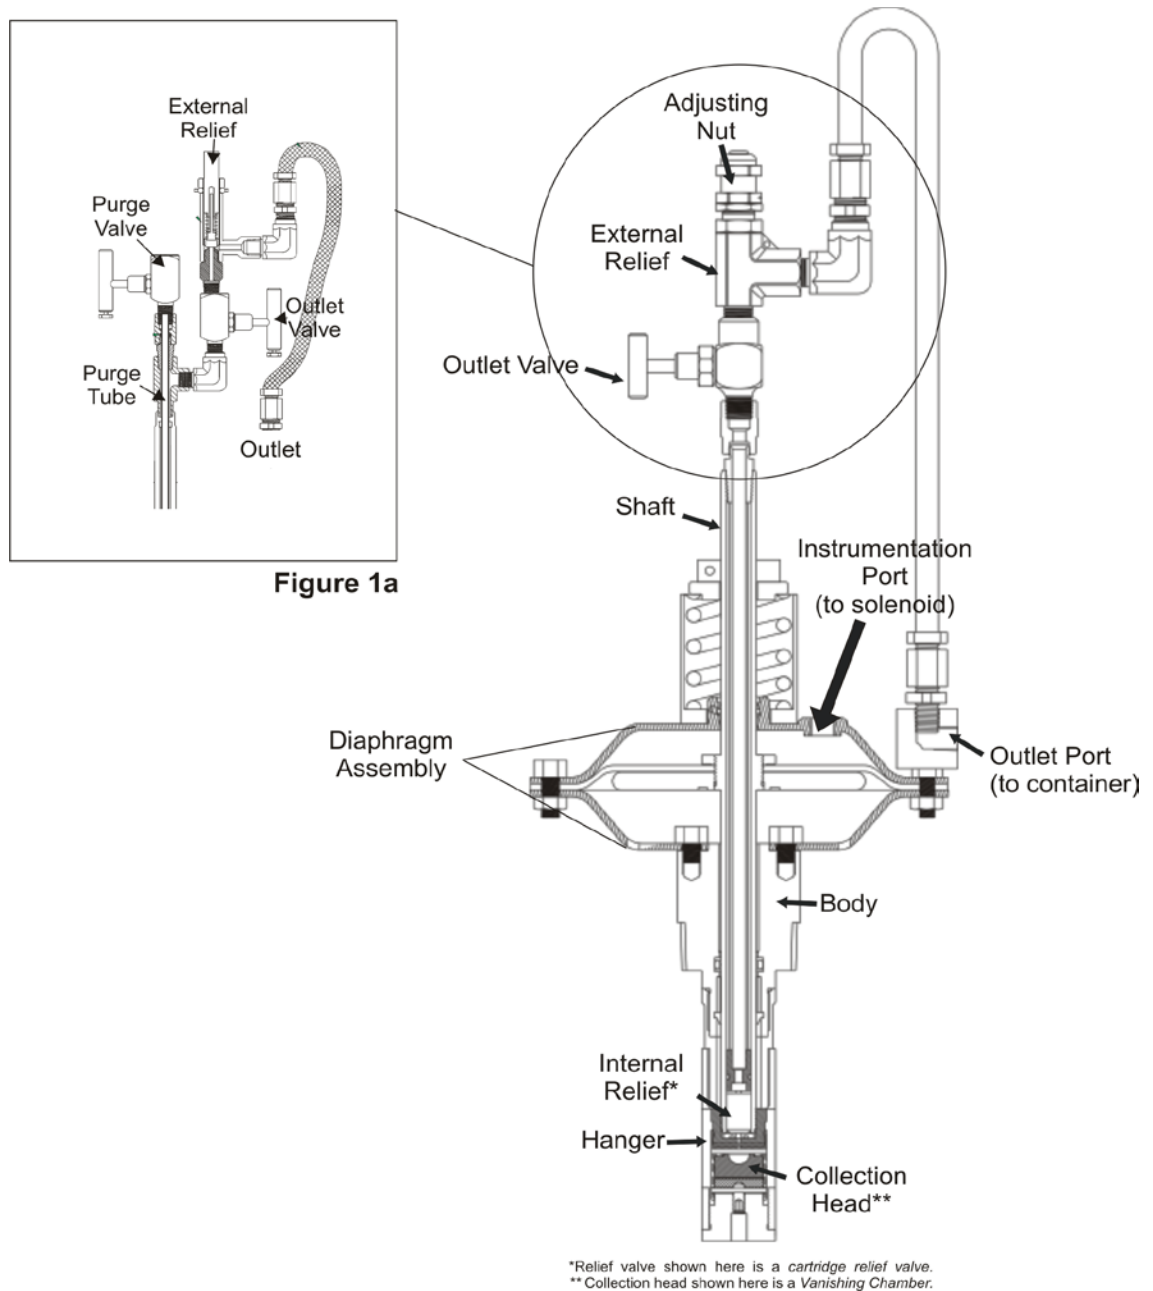

Figure 1
- 2.2.1 A hanger at the bottom of the device (refer to Figure 1) is equipped with an opening for the flowing stream to move through. With the sampler on a bench or a clean working surface, mark the sampler body to indicate where the opening is on the hanger.
- 2.2.6 Tube from the outlet port (refer to Figure 1) to the sample receiver (i.e. atmospheric container or constant pressure cylinder).
- 2.2.10 Tube from the normally open port (stamped *A* or *NO* on most solenoids) on the solenoid (in the de-energized position) to the sampler's solenoid port (*refer to Figure 1*).
- 3.2.1 Use tubing to connect the purge source (i.e. N₂ or Argon) to the purge inlet valve (see Figure 1).